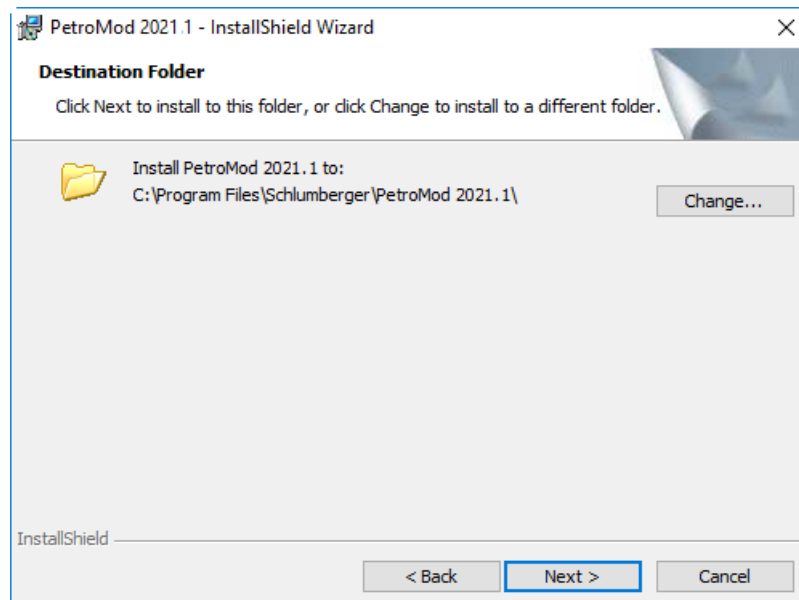

Fig. 3-3 Determining the location of the files
- 4 Determine the location of the files (Fig. 3-3). The default is a folder called **Schlumberger** in your **Program Files** folder. If this is not what you want, you must change it manually by clicking the **Change** button.